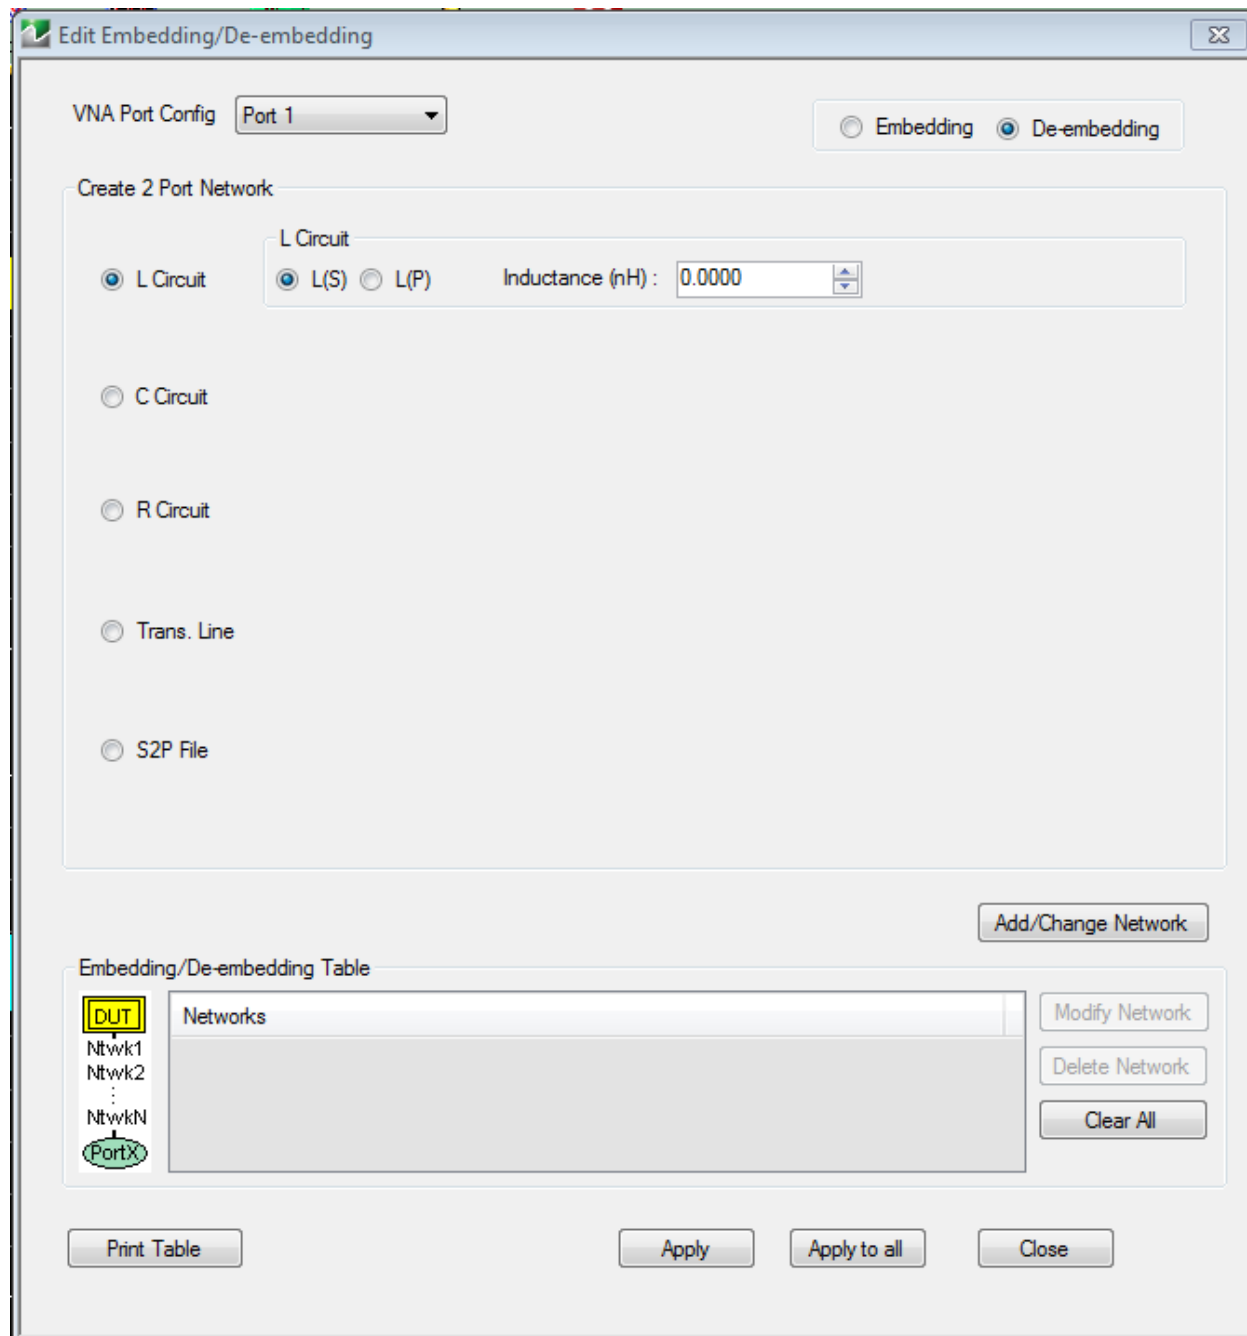
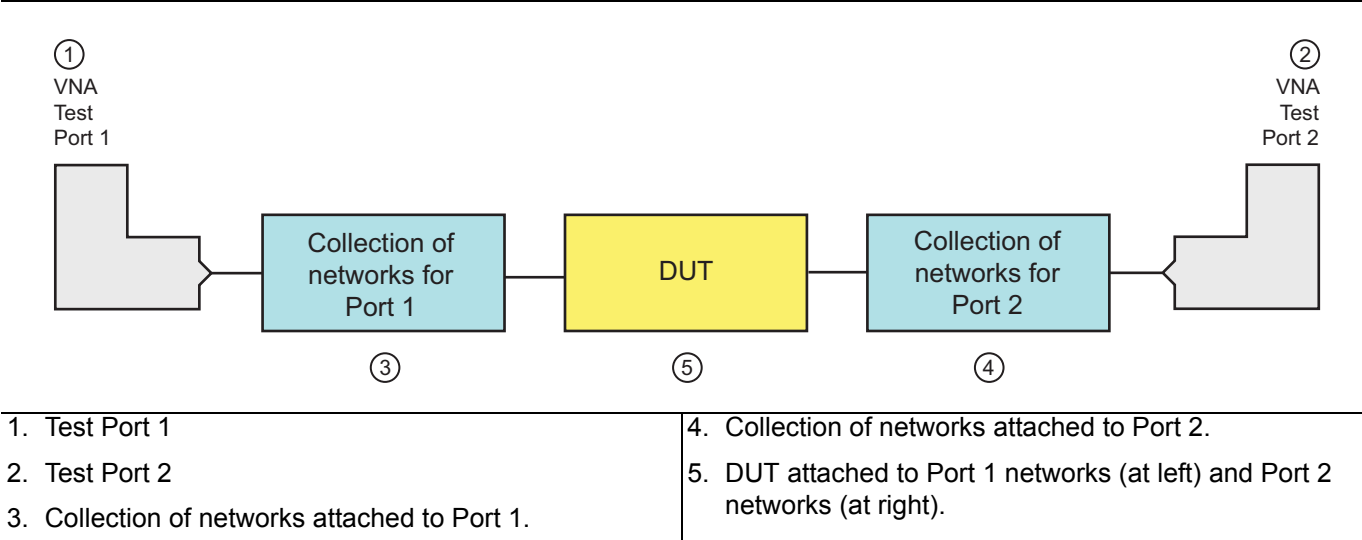

Figure 9-3. EDIT EMBEDDING/DE-EMBEDDING (2 PORT DUT) Dialog Box - L Circuit
Figure 9-4. Global EDE Diagram Showing Independence of Port Networks
In addition, there are some clerical tasks to describe including the order of virtual operations and some conversions to other parameter formats (impedances and admittances for example). The measurements menu that contains the majority of these functions is shown below (Figure 9-3, “Reference Plane Control” on page 9-12). Parameter conversions are a per-trace function (as opposed to the others which are per channel) and is listed under the DISPLAY menu.
The first network entered is always nearest the DUT. The pull-down menu at the top of Figure 9-3 shows which port’s networks are currently being edited. The diagram in Figure 9-4 illustrates the independence concept.
In the Edit Embedding/De-embedding dialog box in Figure 9-3 above, the radio button for entering an LC network has been selected. An additional version of the dialog box is shown in the figure below where a C(S) network has been selected.